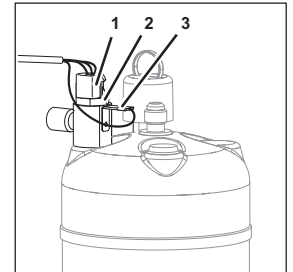

Fig. 76
1. Disconnect the plug (Fig. 76/1) of the level electrode (Fig. 76/2).
2. Disconnect the earth cable (Fig. 76/3).
6. Connect the earth cable (Fig. 76/3).
7. Connect the plug (Fig. 76/1) of the level electrode (Fig. 76/2).